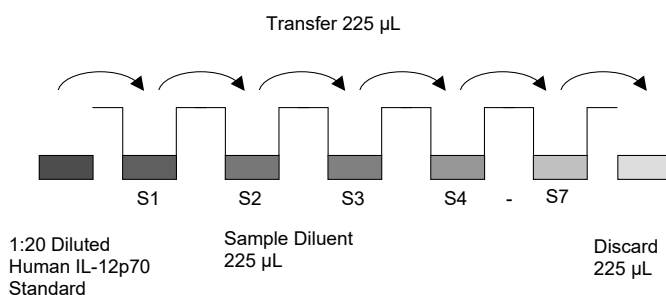

Fig. 8 Dilute standards - tubes
5. Repeat serial dilutions 5 more times to create the points of the standard curve (see Figure 8).